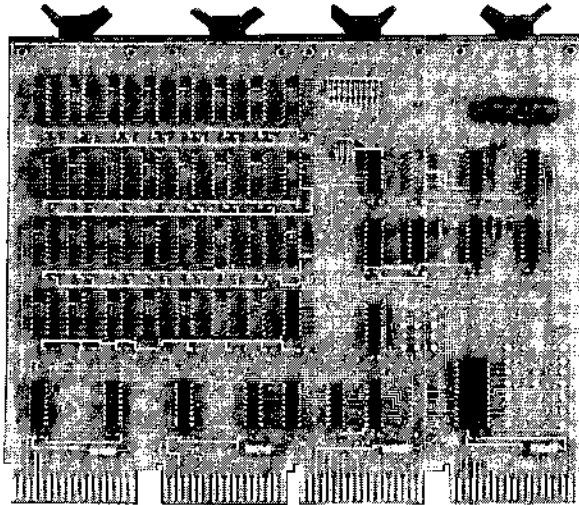

Figure 1-2 Read/Write Module
*Read/Write and Programmable Read-Only Memories (Figures 1-2 and 1-3)*